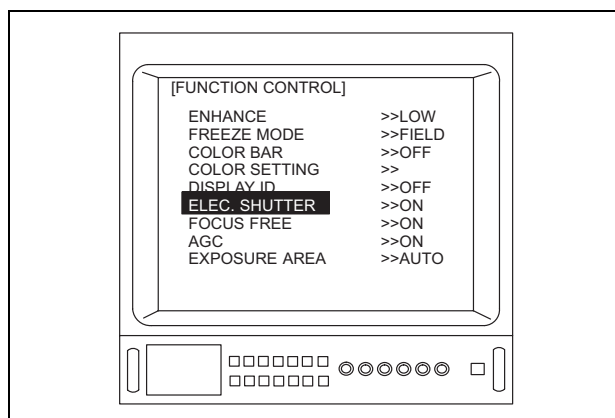

Figure 5.31
5. Depress the menu switch “←” or the “Enter” key on the keyboard to adjust “ELEC. SHUTTER” (see Figure 5.31).
- If the shutter is turned ON, “ON” appears next to “ELEC. SHUTTER” in the menu shown in Figure 5.31.